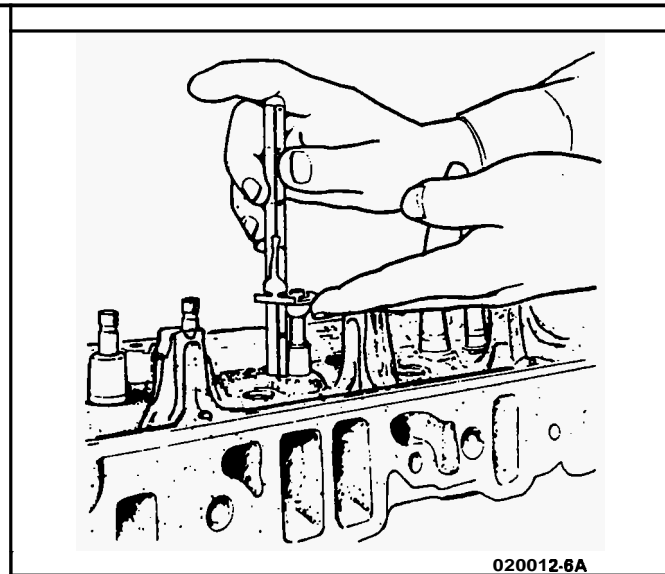

Figure 14 Measuring Valve Spring Installed Height
- o Valve spring installed height (Figure 14). Excessive valve spring installed height is caused by the lowering of the valve seat by wear and grinding and valve face grinding during re-conditioning. To correct the valve spring installed height, add shims under the valve spring.